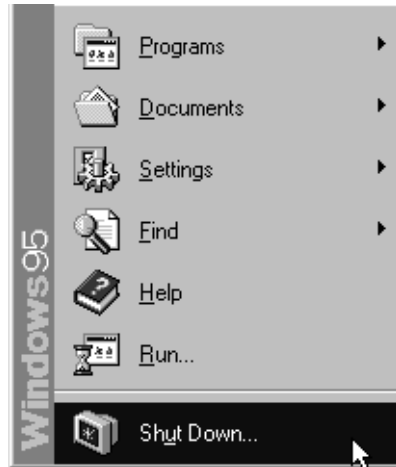

Figure 4–18: Window95 Start window
3. Move the cursor to the box titled Shut Down (see Figure 4–18).